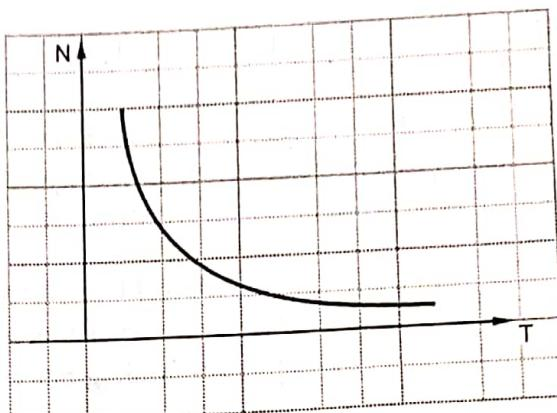

Fig. Q.48.3 N Vs T for series motor
- Thus the nature of the speed-torque characteristics is similar to the nature of the speed-armature current characteristics as shown in the Fig. Q.48.3.